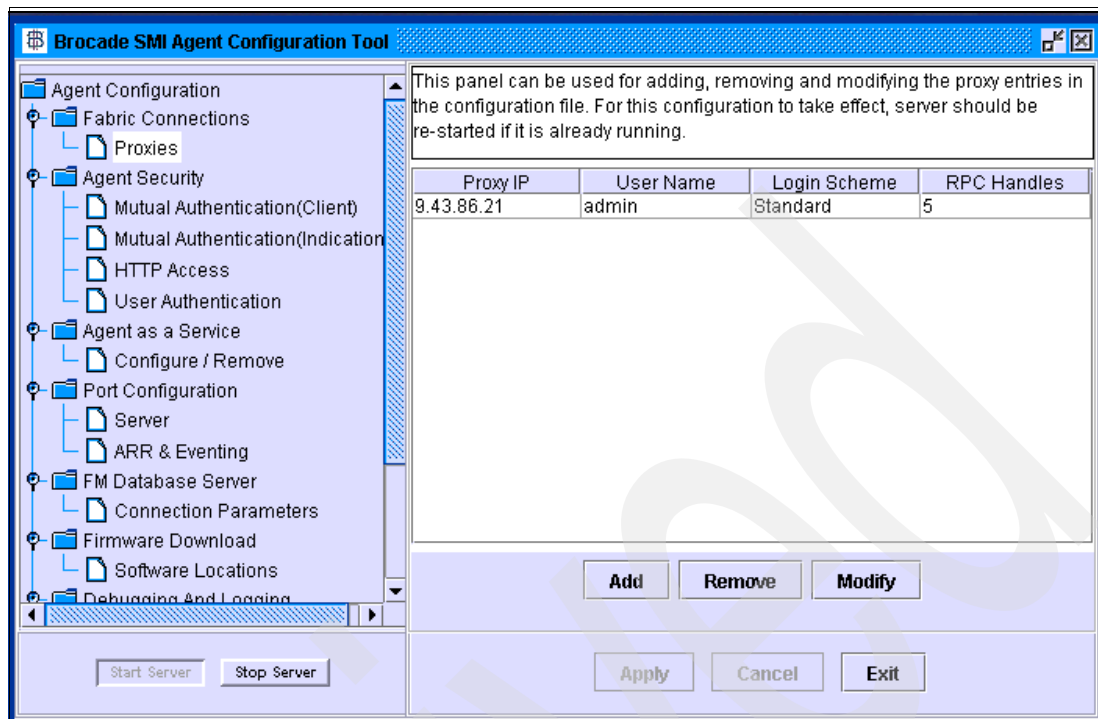

Figure 6-94 Brocade SMI Agent with added proxies
2. The Brocade SMI Agent Configuration Tool window opens. Select **Proxies** if you have already added other switches, they display in the right panel (see Figure 6-94 on page 312).